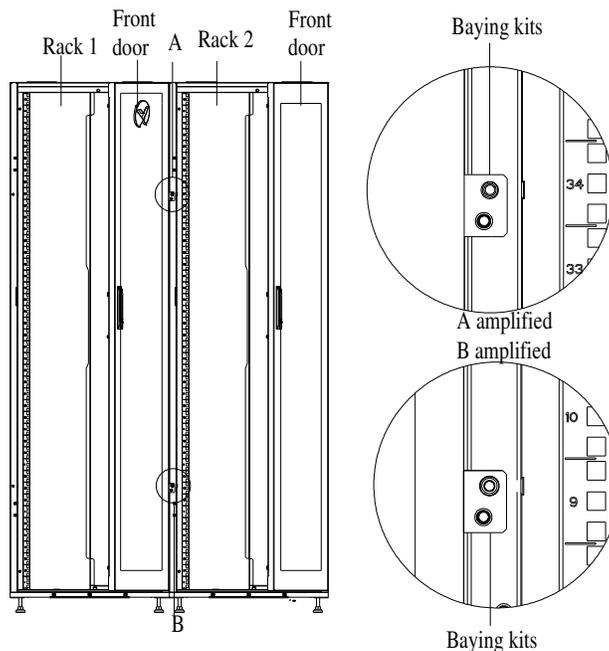

Figure 3-24 Baying the Rack in the Front
2. Use the M5 countersunk head screws to secure the rack to the frame of Rack 2, as shown in Figure 3-24.